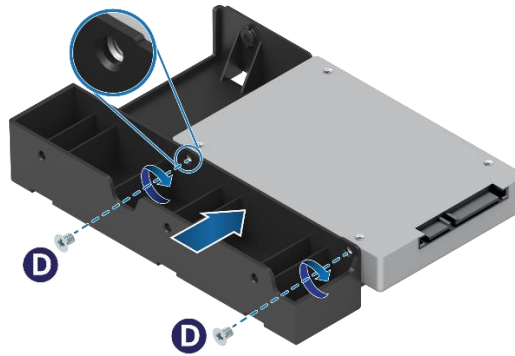

Figure 33. 2.5" SSD Mounting Bracket Assembly
3. Mount the 2.5" SSD into the mounting bracket (see Figure 33)